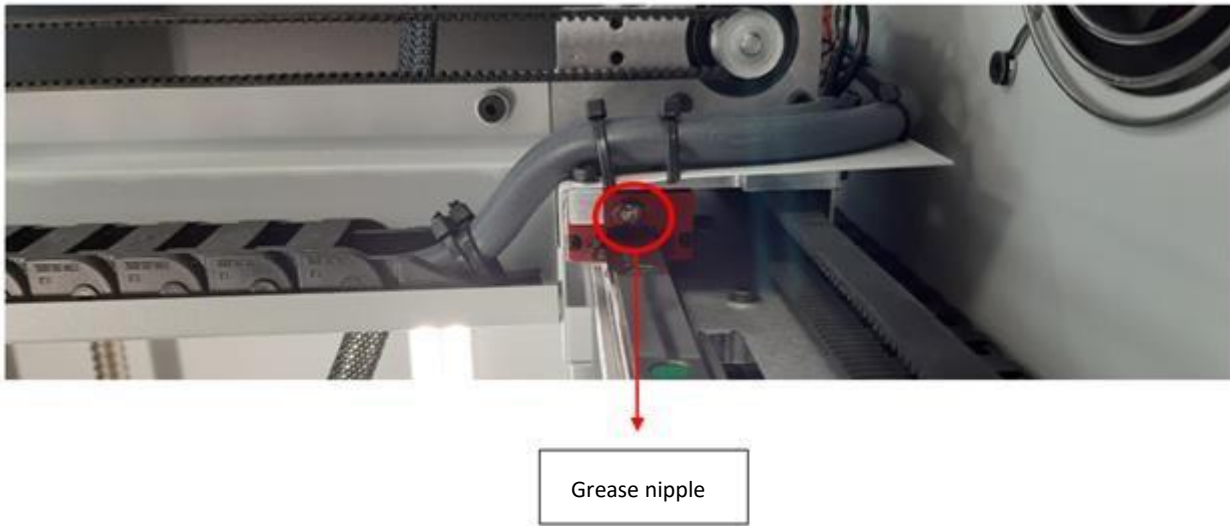

Fig. 32 Lubricating the rear linear carriage of the X axis
- Repeat the operation for the rear carriage of the X axis (Fig. 32).